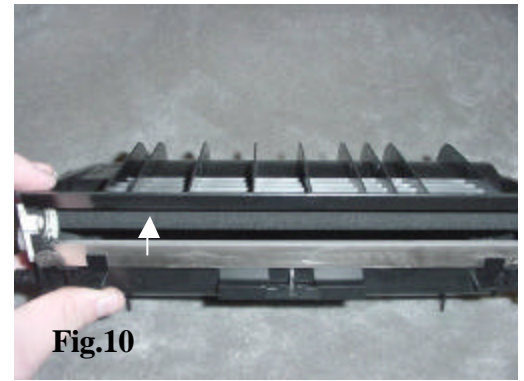

Fig.10
10. In the development area, there are two black Mylar strips behind and below the developer roller (Fig.10). Inspect these strips carefully. There is also a coarse foam toner roller in the development area. Gently blow off the roller with compressed air to remove all residual toner.